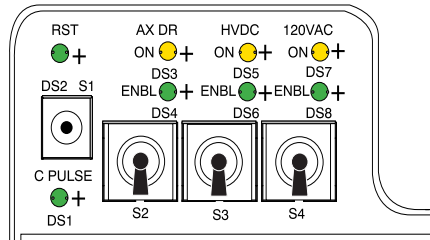

Figure 46 - STC Backplane Service Switches (LS 2.X-4.X, HiSpeed QX/i only)
- ENSURE THAT THE DRIVE STATUS LED (Figure 46) IS NOT LIT. DO NOT SERVICE THE GANTRY IF THIS LED IS ON.